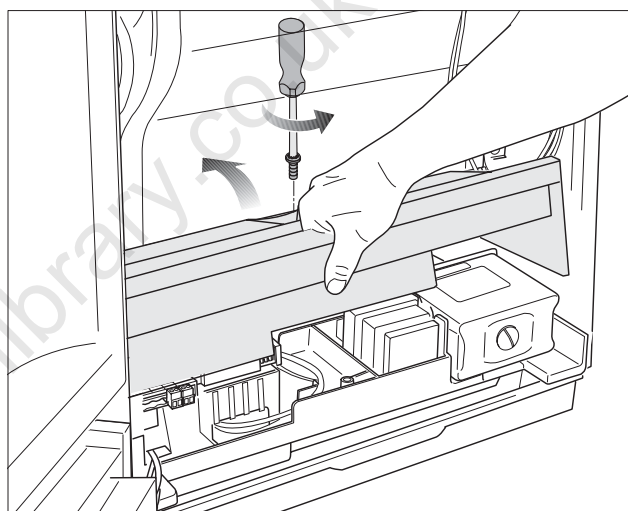

fig. 38 Pull up the cover over the electrical connections
- Undo 1 screw to release the cover over the electrical connections and pull the cover upwards (fig. 38).